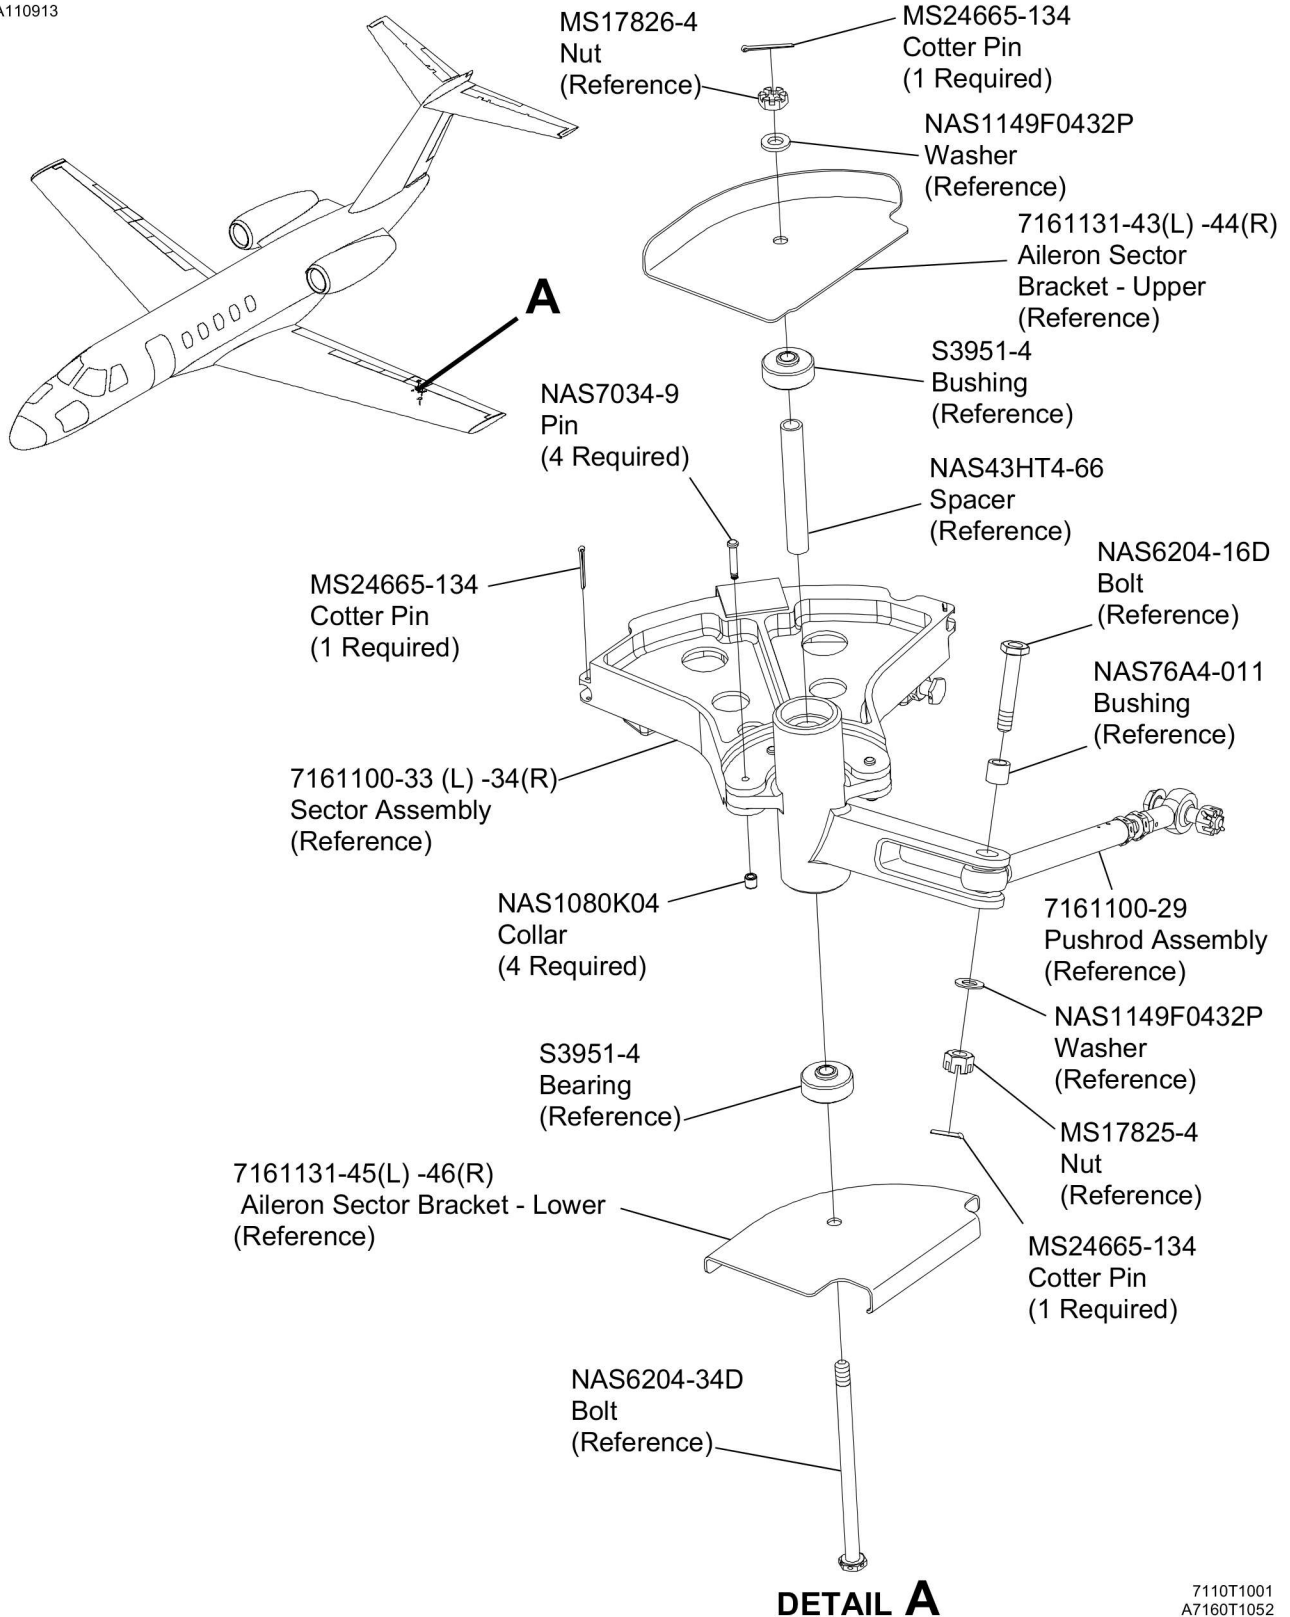

Figure 1. Aileron Sector (Sheet 1)
4. (Refer to Figure 1, Sheet 1.) Replace any NAS7034-9 Pin and NAS1080K04 Collar that is not installed correctly.